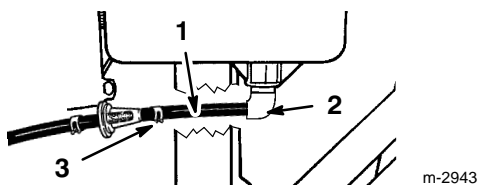

Figure 4
5. Remove red cap from end of fuel line and from end of elbow fitting on gas tank. Slide end of fuel line onto elbow fitting (Fig. 4). Secure fuel line in place with fuel line clamp.